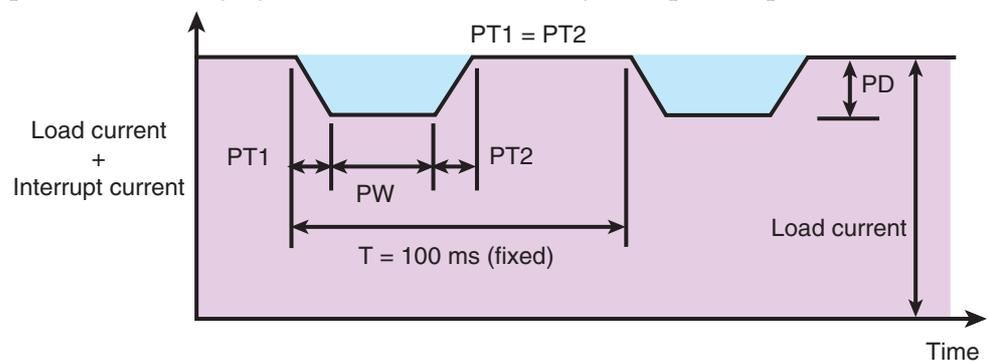

Fig. 5-12 Interrupt current pulse
Fig. 5-12 shows a conceptual diagram of the pulse width (PW), depth (PD), and transition time (PT) of the interrupt current that changes as a pulse. The repetition period of the pulse (T) is fixed to 100 ms.